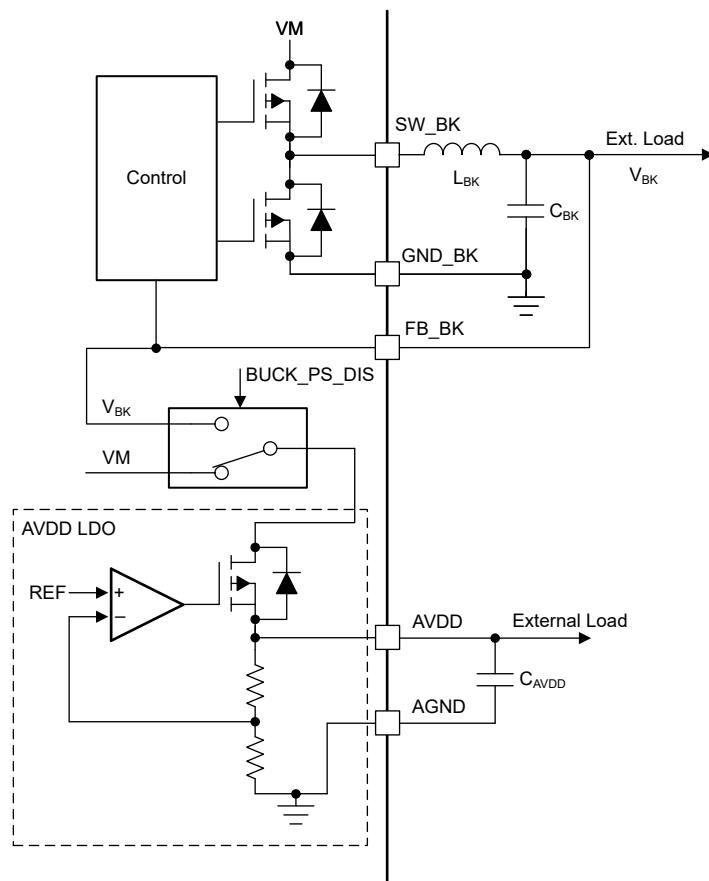

图 7-5. AVDD Power Sequencing from Mixed Mode Buck Regulator
The AVDD LDO has an option of using the power supply from mixed mode buck regulator to reduce the device power dissipation. The power sequencing mode allows on-the-fly changeover of AVDD LDO input from DC mains (VM) to buck output (V_BK) as shown in 图 7-5. This sequencing can be configured through the BUCK_PS_DIS bit. Power sequencing is supported only when buck output voltage is set to 5-V or 5.7-V.